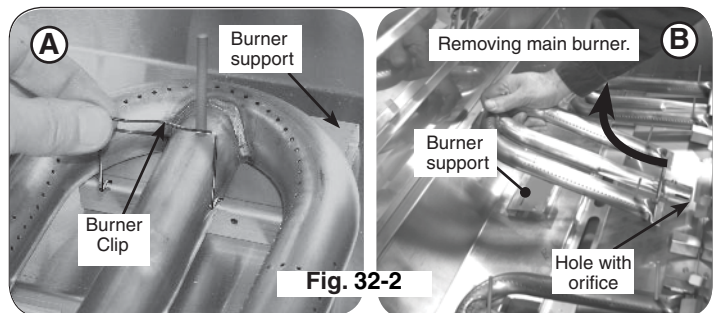

Fig. 32-2
2. Locate the burner. Slightly pinch and remove the burner clip (located over the rear center of the burner) from the burner support and set aside (see Fig. 32-2, A).
3. Carefully lift the burner from the burner support and out from the hole in the forward fire wall (see Fig. 32-2, B).
4. Use a 1/2" hex deep socket nut driver to remove the exposed orifice. Access it through the hole in the forward firebox plate inside the grill (Fig. 32-2). Check orifice. If needed, replace it with the correct orifice for the new gas.